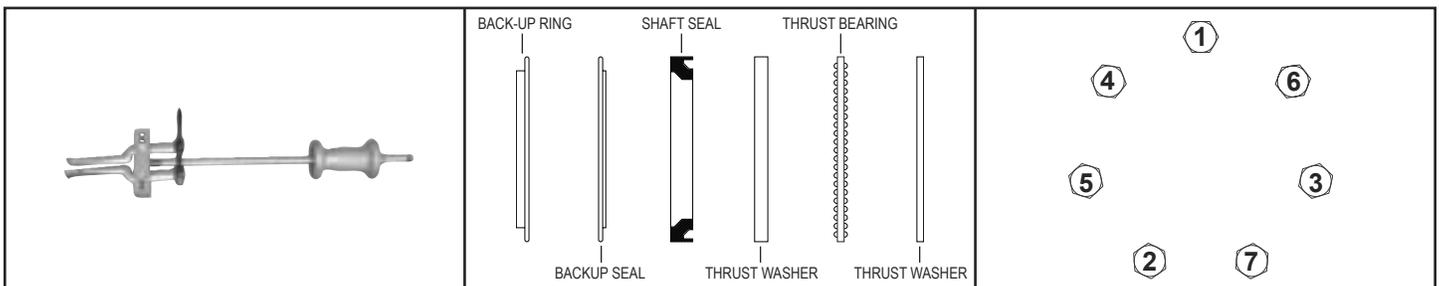

FIGURE 1
- A) Remove all shaft related components from shaft (23) (i.e. keys, nuts). To aid in reassembly of the motor, make a "V" shaped set of lines from the endcover (21) to the housing using either paint or a marker. With shaft facing down, secure motor in vise by clamping on to housing (10).
- B) Loosen and remove seven bolts (22) holding motor assembly together. Remove endcover (21) and endcover seal (7). Discard seal. Remove balance plate (19) taking care not to drop the three steel balls (20) located in the three holes in the balance plate (19). Remove rotor assembly (18), manifold (17), drive link spacer (16) (NOTE: Some motors do not use spacer), drive link (15) and thrust bearing (14). Remove body seals (6) from rotor assembly (18) and housing seal (2) from housing (10) and discard seals.
- C) Gently tap shaft (23) upward from housing (10) and remove through rear of housing and lay aside. Remove housing (10) from vise and turn over. Pry dust seal (1) from housing and discard.
- D) Using a slide and hammer bearing puller (see Figure 1) remove rear housing bearing (8) through rear of housing.
- E) Remove the thrust washer (13), front thrust bearing (12), front thrust washer (11), shaft seal (5), back-up seal (4), and back-up ring (3) from housing. Discard items (3, 4, & 5).